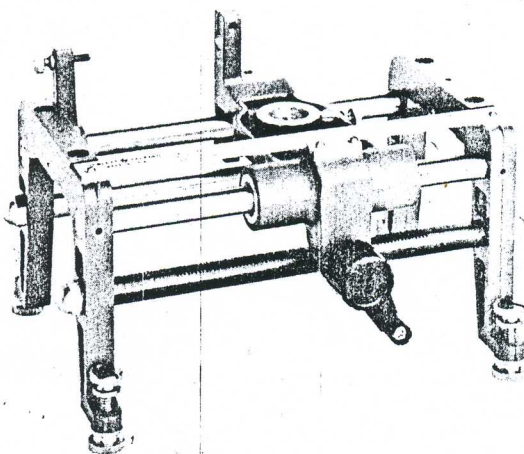

Figure 2. Model 809C Universal Probe Carriage
4. A Model 810B slotted section is installed in an 809C Universal Probe Carriage shown in Figure 2. In operation, RF power is applied through the slotted section to the device under investigation. The fields in the line are sampled by means of a probe which protrudes into the slotted section. The output of the probe is fed to a high-gain voltmeter such as the HP Model 415B/E Standing Wave Indicator. With this type of setup, information about variations along the entire length of probe travel can be obtained.